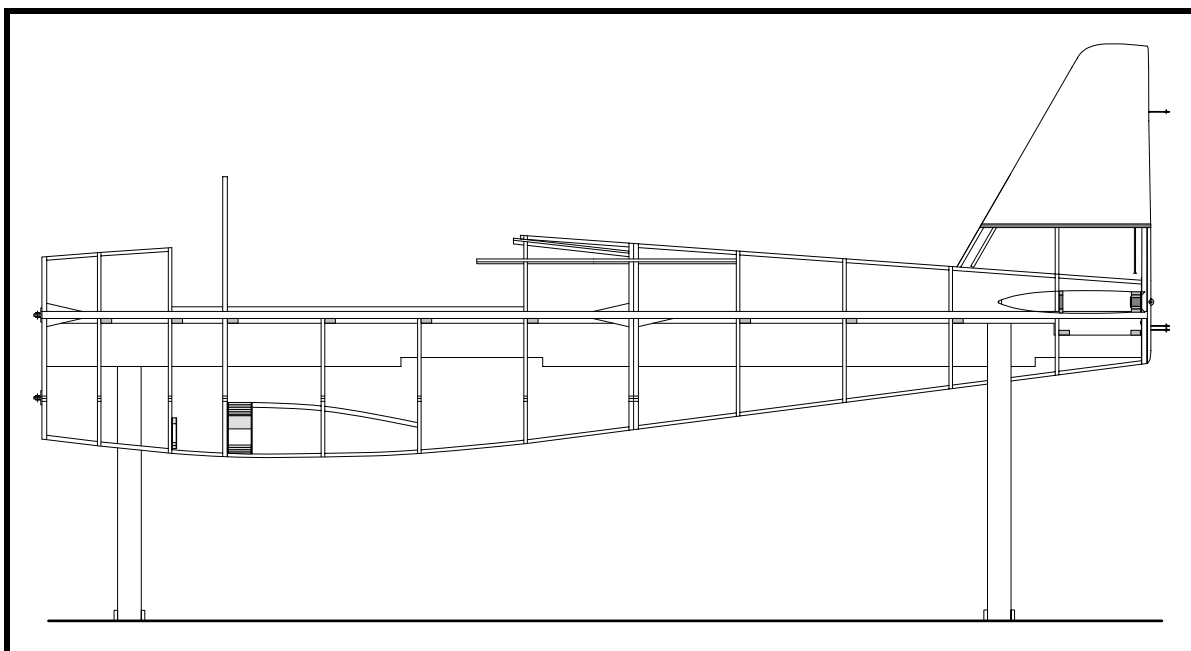

Figure 26
- ❑ Fit and glue the lower 35x150 corner block for the left side longeron at the aft face of frame No. 8. See Figure 26. The upper corner block is not installed at this time due to the construction of the battery box.